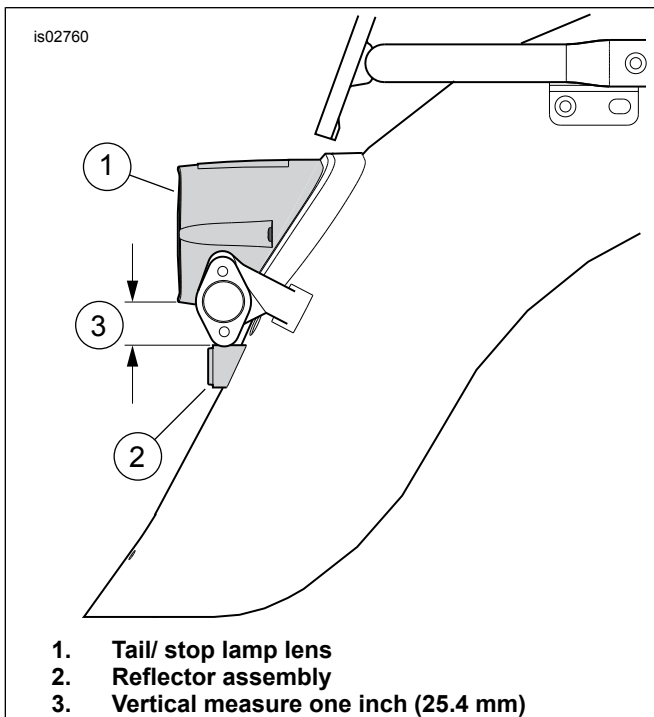

Figure 2. Reflector Mounting
- b. Use a straight-edge to find a location on the fender one inch (25.4 mm) below the bottom edge of the tail lamp lens at the centerline as indicated in Figure 2. Do not follow the curve of the fender, but measure straight vertically. Make a horizontal mark on the fender at this location.